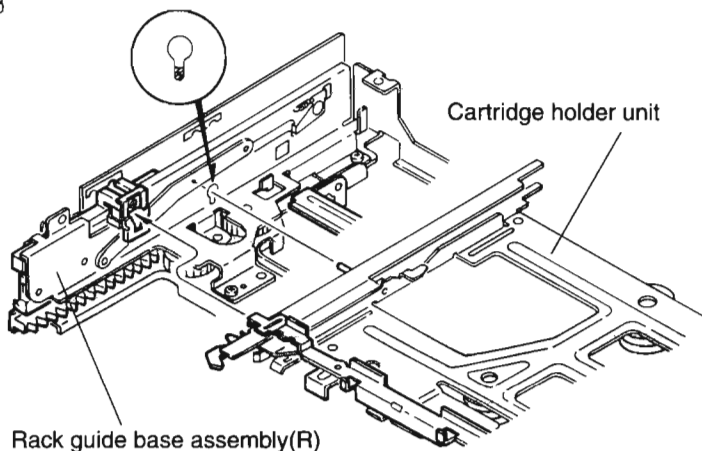

Fig.21
- Insert the studs on the side of the Cartridge holder unit into the suitable holes of the Rack guide base assemblies (L) and (R) (see Fig.21 and 22) to attach the Cartridge holder unit to the Rack guide base assemblies (L) and (R)
- Insert the both ends of the Hood unit into the Hood brackets (see Fig.21 and 22).